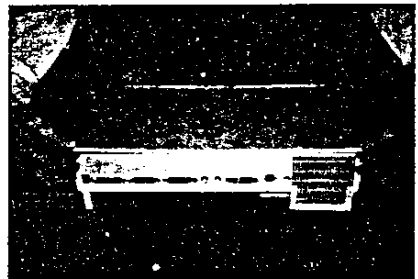

Fig. 3-10. Installing the Top Housing
3.5.2 The TOP HOUSING snaps into the bottom housing. Inward pressure on the top housing, at the rear corners of the computer, may be necessary to replace the cover without using excessive force. See Fig. 3-10.